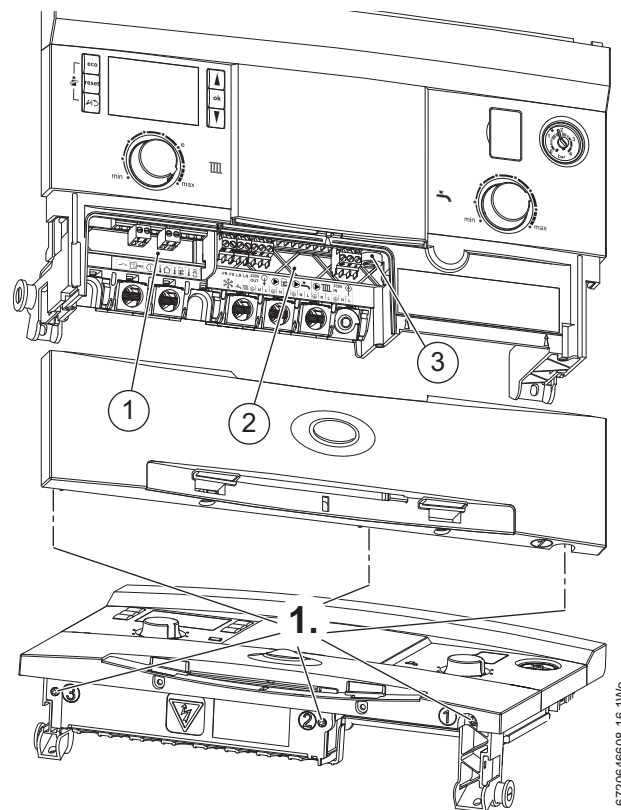

Fig. 47 Removing the installer access cover
1. Refer to figure 47 and release the three captive screws securing the Installer access cover.